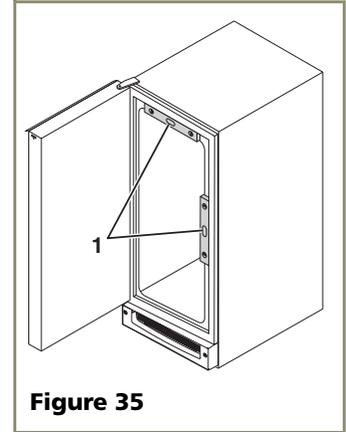

Figure 35
1. Use a level to check the levelness of the ice maker from front to back and from side to side. Level should be placed along top edge and side edge as shown (see **Figure 35**).